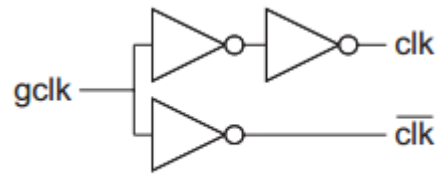

FIGURE 4.43 Clock buffer
- The clock buffer in Figure 4.43 can present a maximum input capacitance of 100 fF. Both true and complementary outputs must drive loads of 300 fF. Compute the input capacitance of each inverter to minimize the worst-case delay from